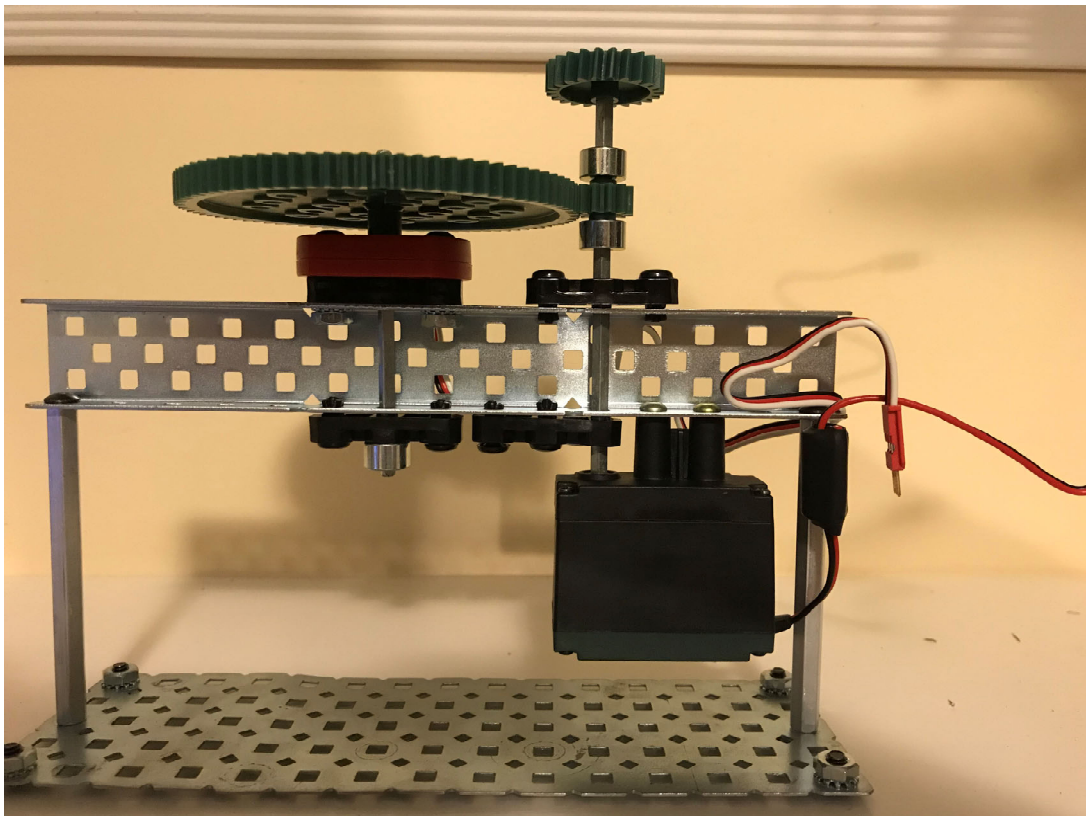

Figure 6: Motor Controller Mechanism
2. Build the VEX motor control rig described below for Exercise 2 shown in Figures 6 and 7. The description of the mechanism is in the Exercise 2 section below.
In this exercise, you will be building a motor controller for the mechanism shown in Figure 6. You may need to use a longer shaft to connect to the motor than is shown in the photo below.